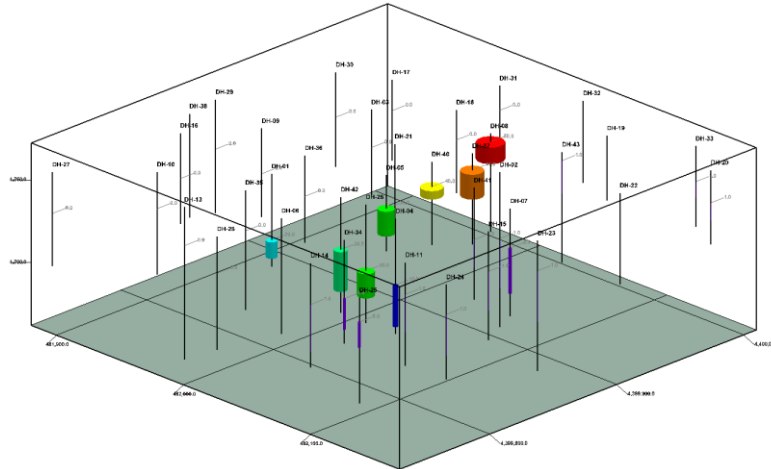

Figure 64
- This will produce a 3D diagram (Figure 64) that depicts the Dioxane within the screened intervals as cylinders whose radii and colors are automatically scaled in proportion to the Dioxane concentrations.